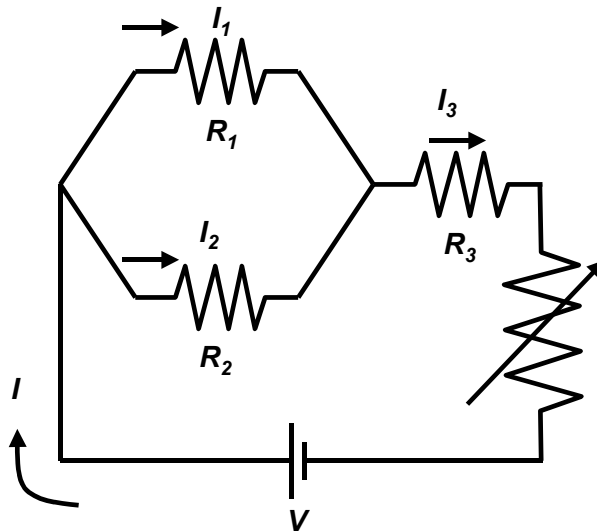

Figure 5. Combination of series and parallel circuits.
3. Connect two light bulbs in parallel and the third one in series as shown in Figure 5. Set up the ammeter and voltmeter to measure the total current, I , the total voltage drop, V , of the circuit, and the current through and voltage drop across each of the light bulbs.